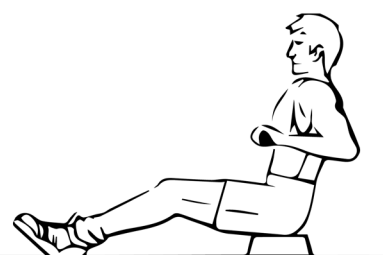

Fig. 3
4. Continue this movement until you lean slightly backwards. Bring your arms out to the side (Fig 3).